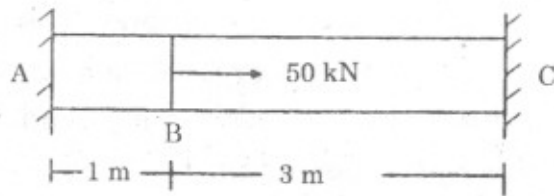

Fig. 2
- (1) Young's modulus of elasticity
- (2) Yield stress
- (3) Ultimate stress
- (4) Percentage elongation. [8]
- (b) Calculate the support reactions and moment of the junction B of the member loaded as shown in Fig. 2. Take $E = 200$ GPa, Dia. = 25 mm : [8]